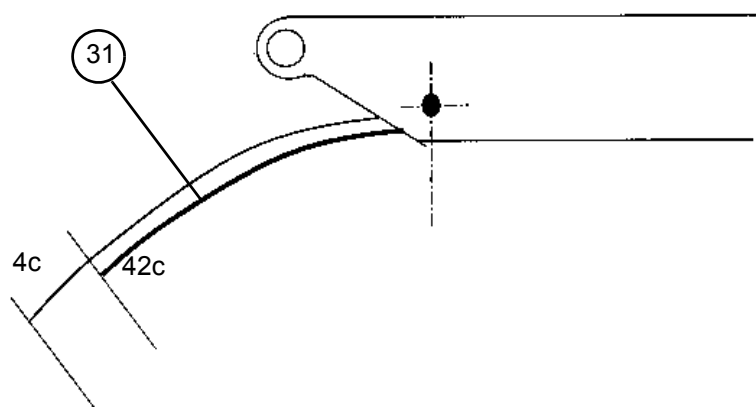

Figure 10
- Bind together the two electric cables (31, Figure 10) with adhesive tape, on the side on which they will be inserted. Mark a length of 3m on the 42-wire cable.
- At the other end of the head element, pull the hoses through (Figure 10).